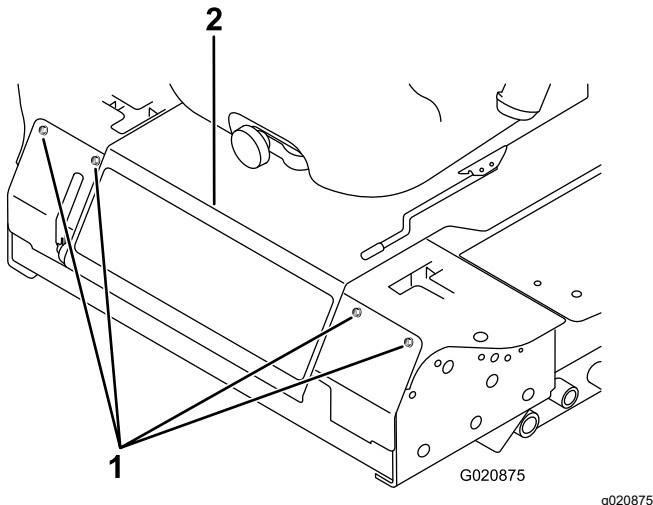

Figure 85
2. Remove the bolts securing the front panel and remove the panel (Figure 85).